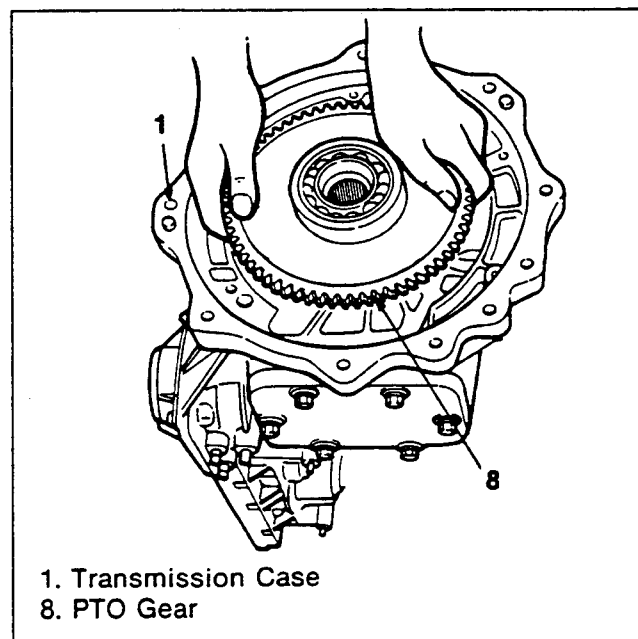

Figure 284. PTO Gear Installation (2)
2. Install the PTO gear (figure 284).